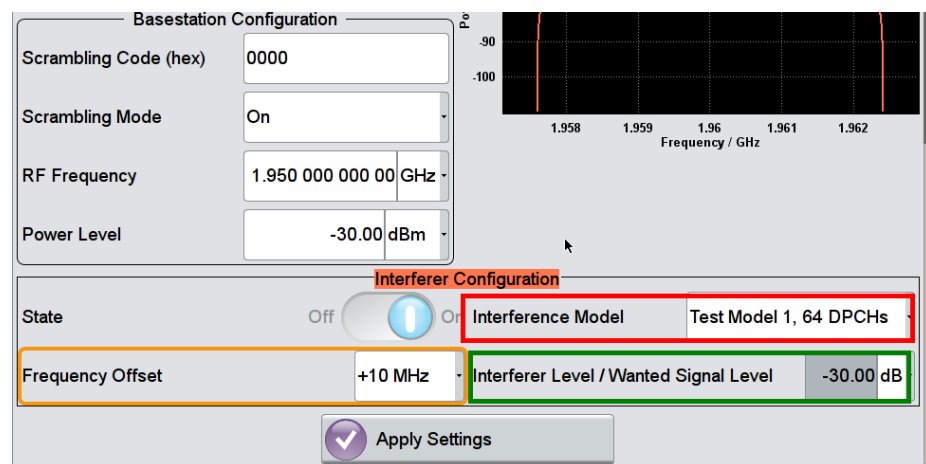

Fig. 3-93: Select the test model and the frequency offset of the interfering signal
(Fig. 3-93)
9. In the Interferer Configuration section, select **Interference Model** and **Frequency Offset**. (Fig. 3-93)